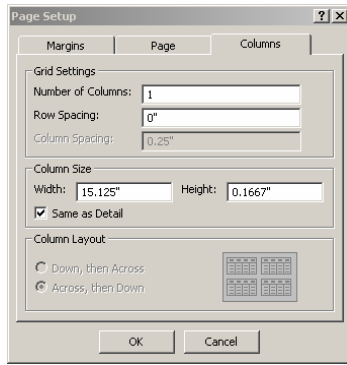

Figure 14 – Pipe/W-Shape Project Book Columns Setup
4. Select the **Columns** tab and set the column settings as shown in Figure 14.